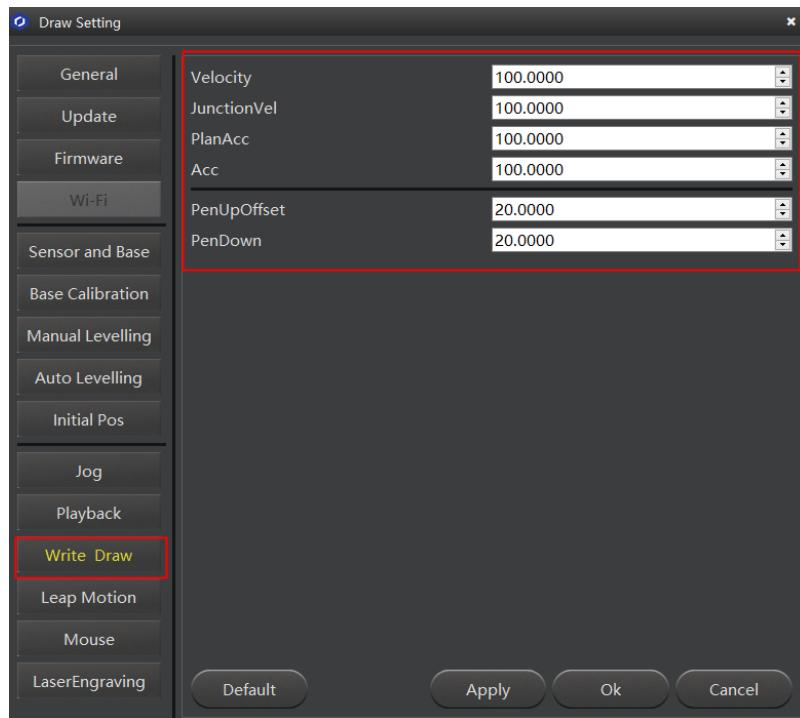

Figure 5.54 Setting the parameters of the Write & Draw function
2. Click **Write & Draw** to set the Dobot Magician's **Velocity** (mm/s), junction velocity (**JunctionVel**: mm/s), **PlanAcc** (mm/s2), acceleration (**Acc**: mm/s2), **PenUpOffset** (mm), **PenDown** (mm), as shown in Figure 5.54.